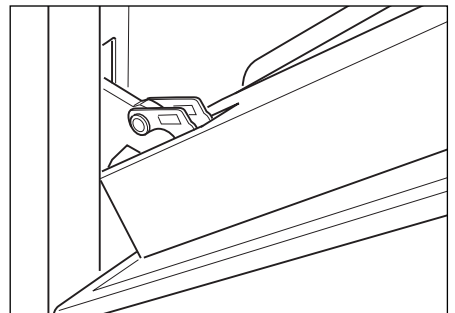

Fig.27d
- Gently close the door until left and right hinge levers "A" are hooked to part "B" of the door (Fig. 27d).